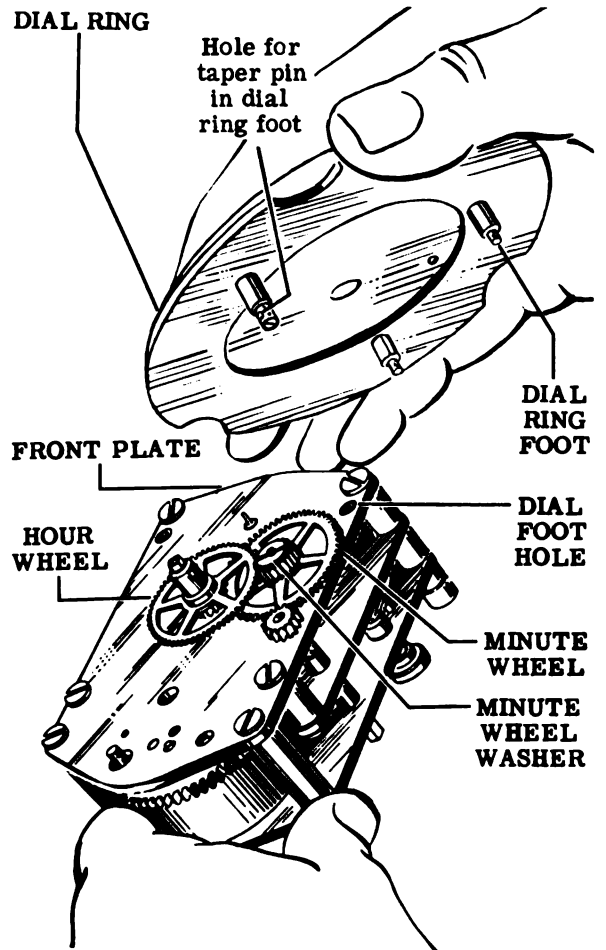

Figure 33
- Tilt the dial and movement so that you can see the taper pins holding the dial ring feet to the front plate of the movement. Refer to Fig. 33. With a pair of pliers, pull out the three taper pins. If the pins are very tight, they can be loosened by turning the pliers so that the pin is turned about its axis while being pulled out.
- Lift off the dial with the attached dial ring and reflector as shown in Fig. 33. For purposes of repair, the dial may be separated from the dial ring by removing the three reflector screws (see Figs. 137 and 138)—otherwise the three parts are not ordinarily disassembled.